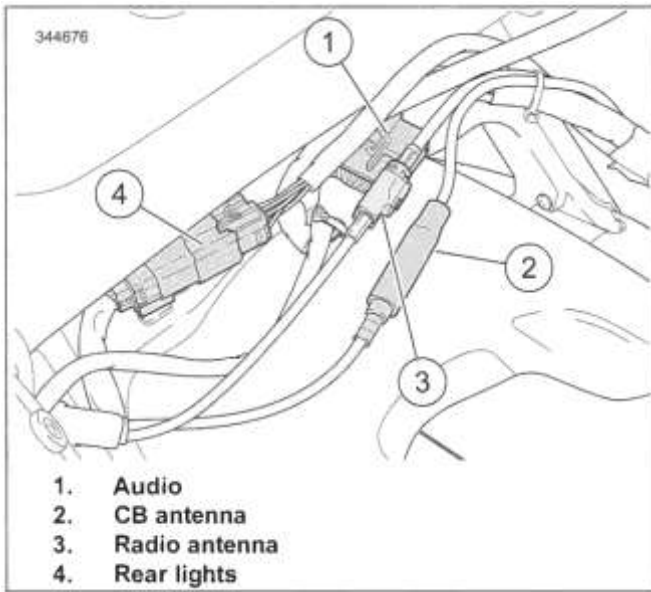

Figure 3-180. Tour-Pak Connectors
5. See Figure 3-180. Mate Tour-Pak electrical connectors. Secure with anchors.